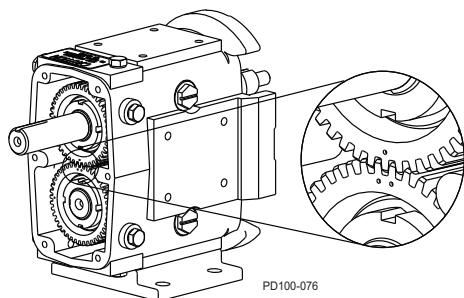

Figure 214 - Timing Gear Marks
3. Slide the short shaft gear onto the short shaft. The short shaft gear has two punch marks on the gear. Straddle the single punch mark of the spur drive gear with the two punch marks on the short shaft gear (Figure 214).